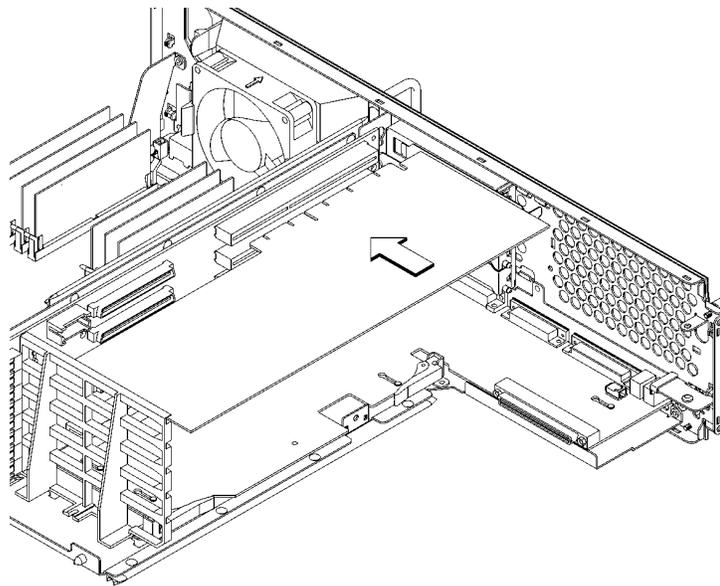

Figure 48 Installing an Option Board
- 9 Slide the option boards into the slots that they came out of, as shown in Figure 48. Make sure that the hole in each board's handle aligns with the pin on the back panel.